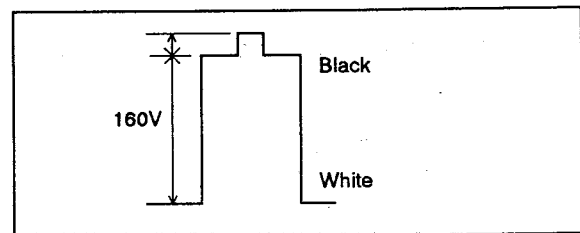

Fig. 40
5. Adjust R3469 (HD. sub-con.) to achieve 120VB-W as shown in Fig. 40.